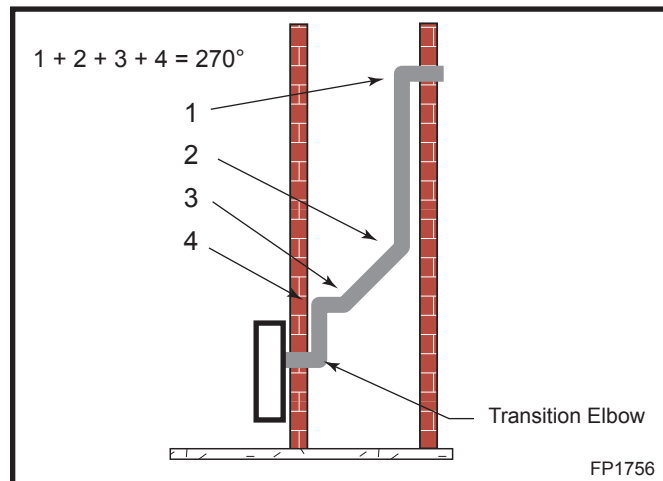

Fig. 22 Maximum elbow usage.
- The maximum number of elbow degrees in a system is 270°. (Fig. 22)